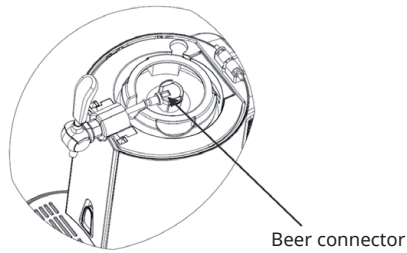

Figure 19
2. Follow the instructions on the beer keg to install the adapter (the nozzle) (see figure 17 and 18) supplied with the appliance. Connect the adapter to the tap connection. The beer connection is now connected (see figure 19).